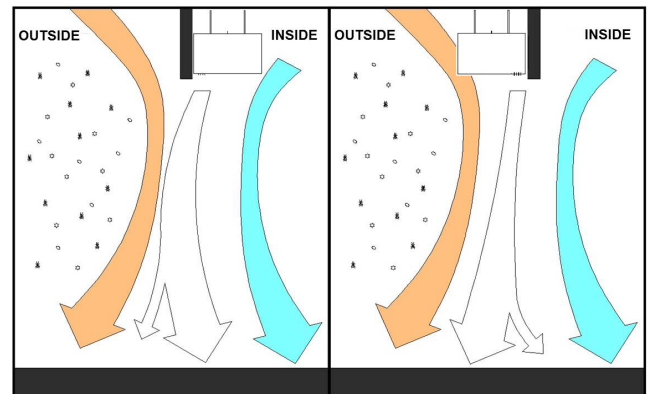

FIG. 4
- H. Regardless of whether the product is mounted on the inside or outside of the door opening, set the air directional vanes in the discharge nozzle slightly outward to approximately 10-15° towards the outside, or the wind load. (FIG. 4).